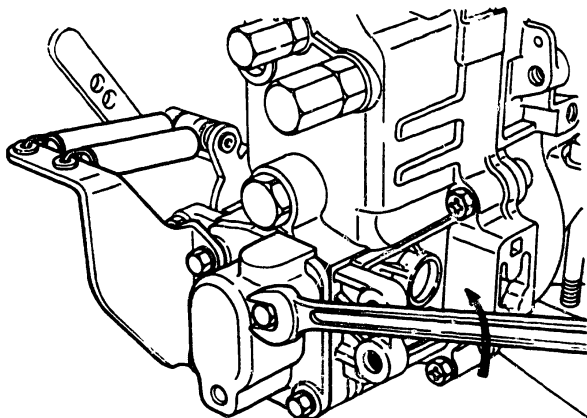

Fig. 18 Removal of bolts
- 4. Remove the four bolts (82, 83, 84 and 86). (Fig. 18).**
- 5. Remove the cover, two springs (195) and bracket (255) together.**